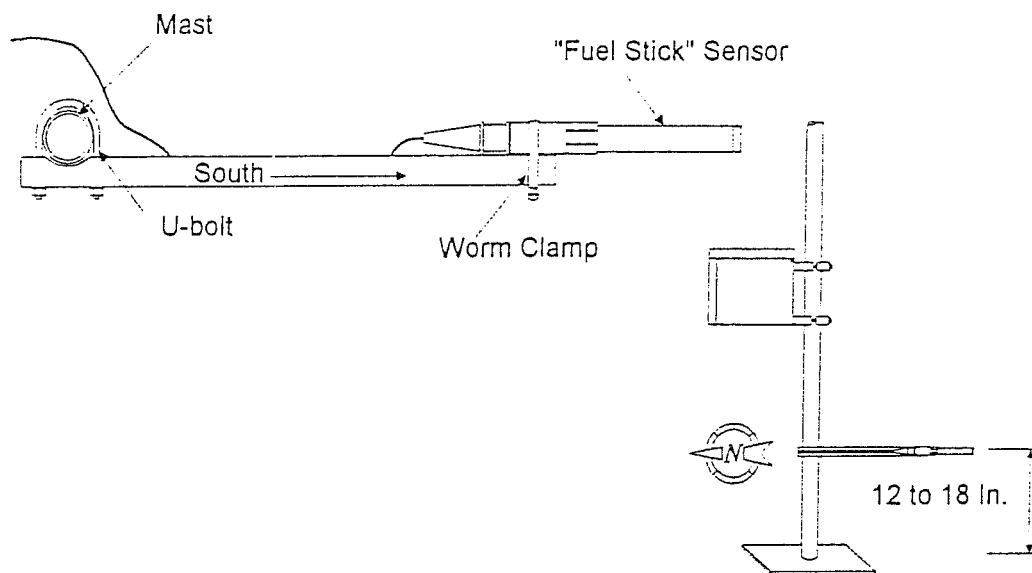

Figure 4-17
1. Clamp the fuel stick support to the mast so that the fuel stick will be at the proper height above the fuel bed. See Figure 4-17.